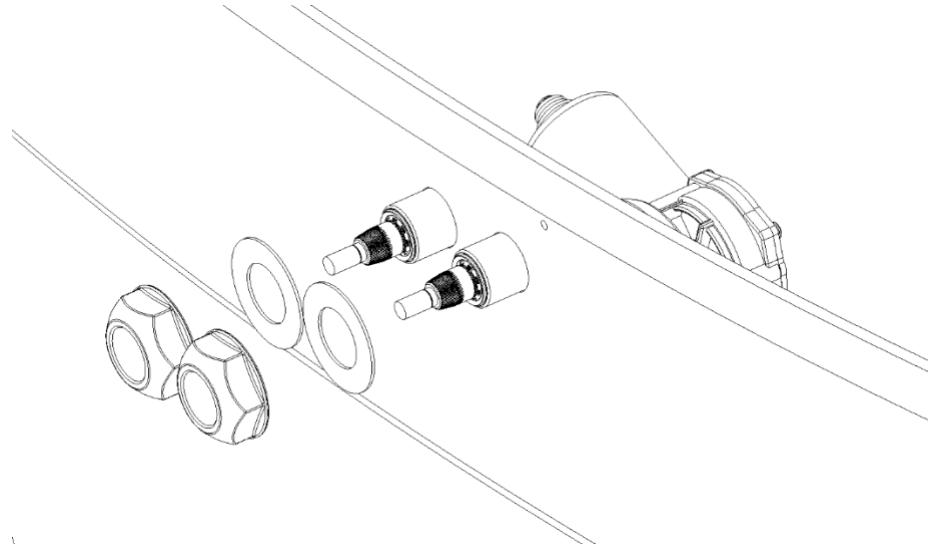

Fig. 2.
5. Install the fiber washers, PN 407-1112 (see figure 2).
6. Install the supplied nuts (see figure 2), and torque to $27.0 \pm 2 \text{ Nm}$ [$20 \pm 1.5 \text{ ft-lb}$] (socket available for purchase, PN 344-1003).